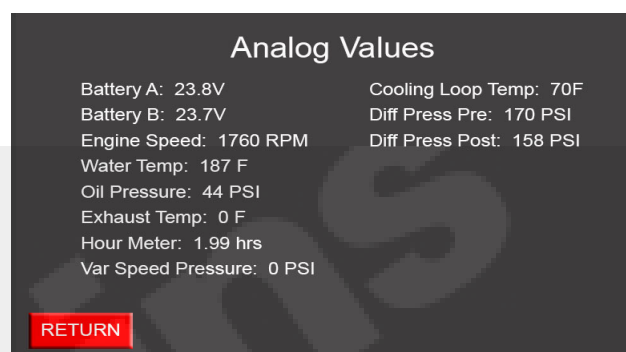

Figure 4-14 Analog Values Screen (Sample)
3. To exit the Analog Values screen (shown in Figure 4-14), press the RETURN soft key.